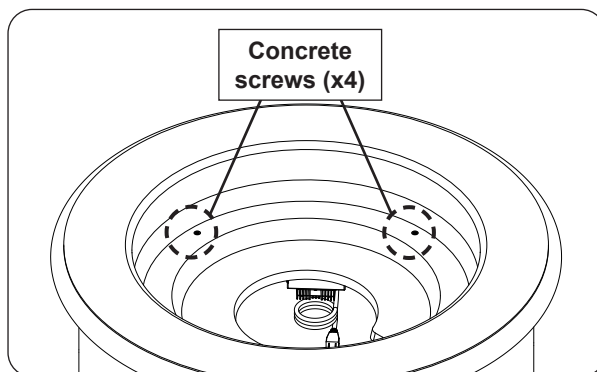

Fig. 28-4 Remove concrete screws
4. Remove the 4 concrete screws from the refractory panel (see Fig. 28-4).